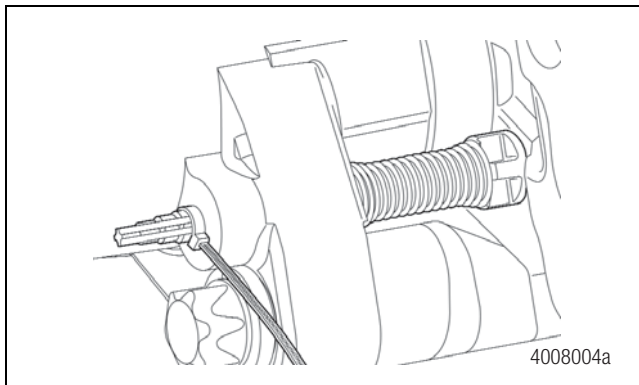

Figure 6.24
2. Ensure the visual wear indicator is not damaged. Figure 6.24.